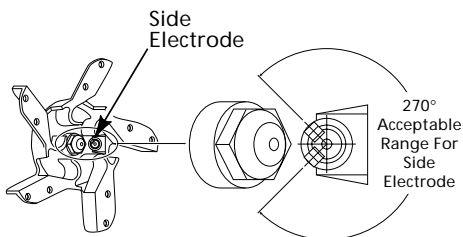

Figure 15 - Acceptable Range For Side Electrode
6. Install spark plug and wave spring washer in burner head. Torque 40 to 60 inch-pounds. Then adjust (if necessary) to bring side electrode into the acceptable range (See Figure 15).